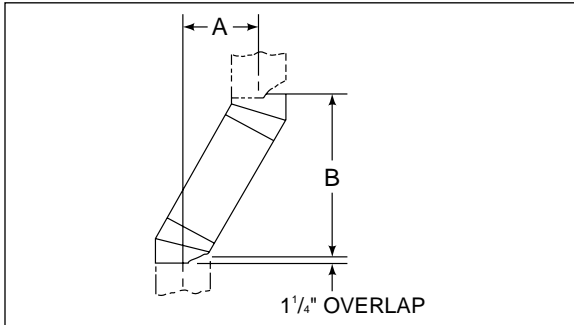

Figure 8
- a. Measure how far the chimney needs to be shifted to enable it to avoid the overhead obstacle. See Figure 8, dimension "A".
Example: Your "A" dimension from Figure 8 is 14½". Using Table 1, the dimension closest to but not less than 14½" is 14¾" using a 30° offset/return. It is then determined from the table that you would need 33" (Dimension "B") between the offset and return. The chimney components that best fit your application are two [2] SL312's.